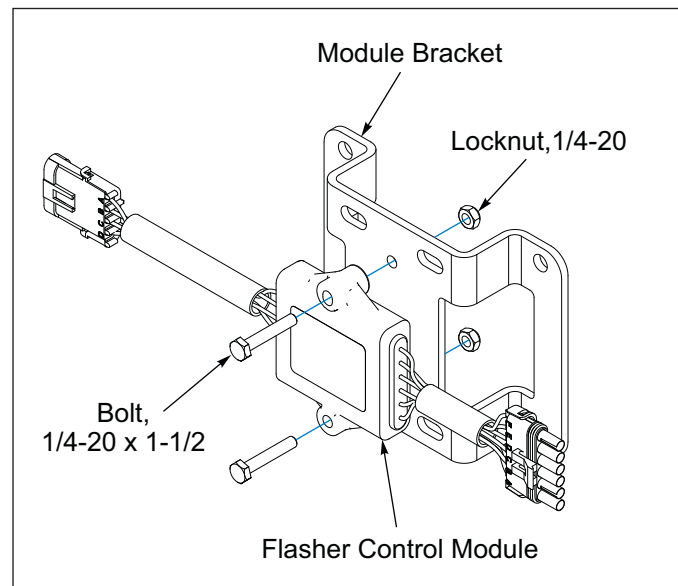

Figure 2-21: Flasher Control Module and Bracket (Before 08/2025)
7. Attach the Flasher Control Module to the Module Bracket with 1/4-20 x 1-1/2 Bolts and Locknuts. **See Figure 2-21.**